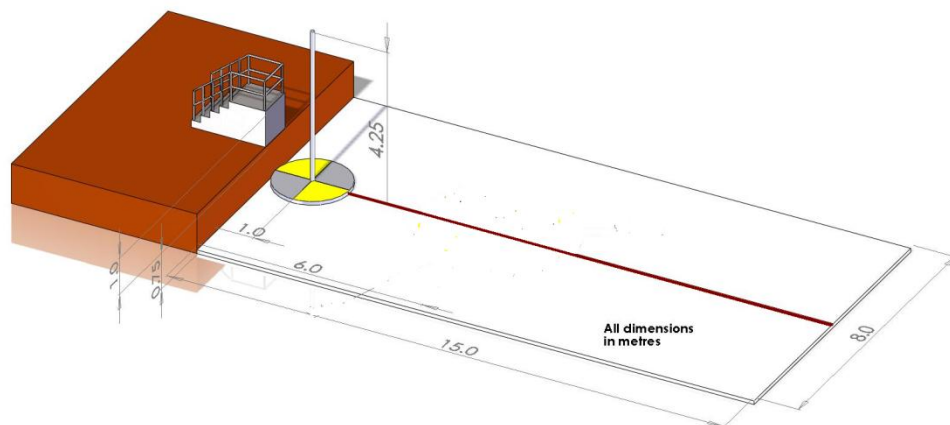

Figure 2.1: Competition Setup of Category A
Figure 2.1 shows the competition setup for Category A. The paper planes are required to perform **THREE (3)** missions, namely: